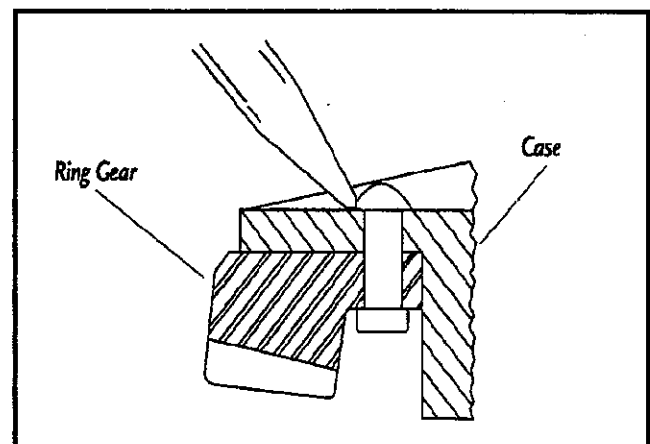

Figure 12—Incorrect Procedure for Rivet Removal
25. Drill through rivet head. (See Figure 12—Incorrect Procedure for Rivet Removal.)